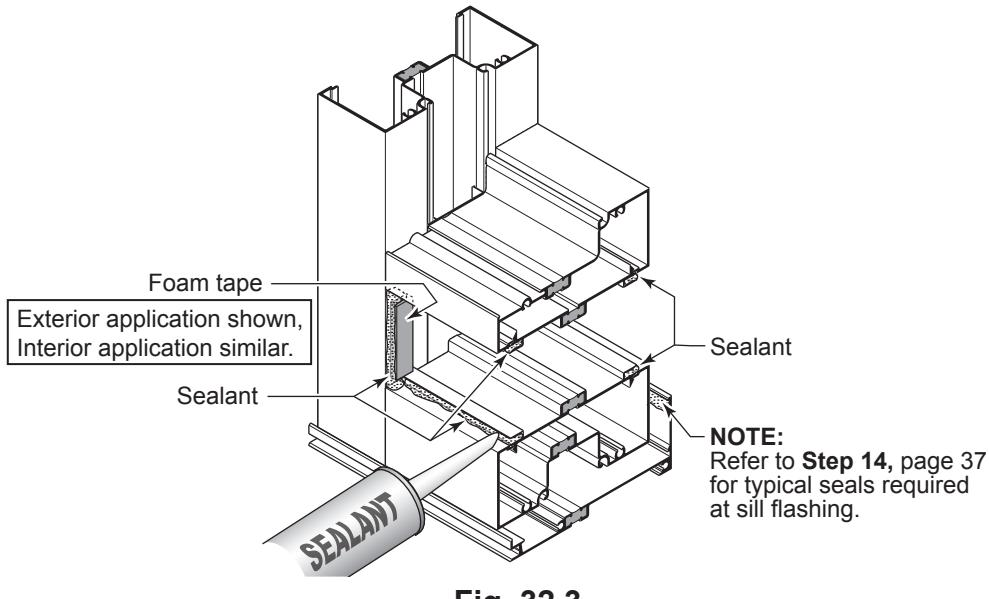

Fig. 32.3
- G. *Optional:* Place one-sided closed cell adhesive tape along the edges of the vertical where the sidelite base covers will be installed. Place a bead of sealant onto the tape. SEE Fig. 32.3.
- H. Place a bead of sealant into the receptor areas of the snap-in adaptor. SEE Fig. 32.3.